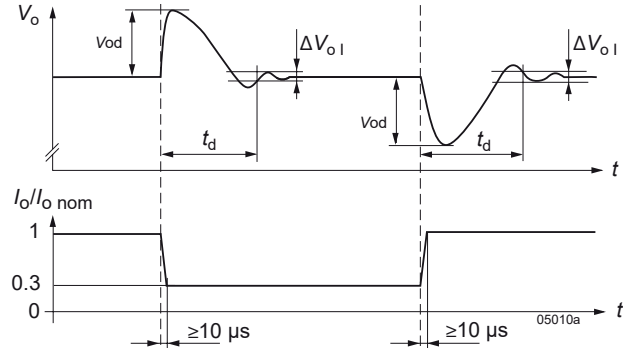

Fig. 5
- 2 Condition for specified output. With multiple-output models, other output(s) loaded with constant current  $I_{o,nom}$ . See fig. 5 *Dynamic load regulation*.
- 3 Condition for non-specified output, individually tested, other output(s) loaded with constant current  $I_{o,nom}$ . See fig. 5 *Dynamic load regulation*.